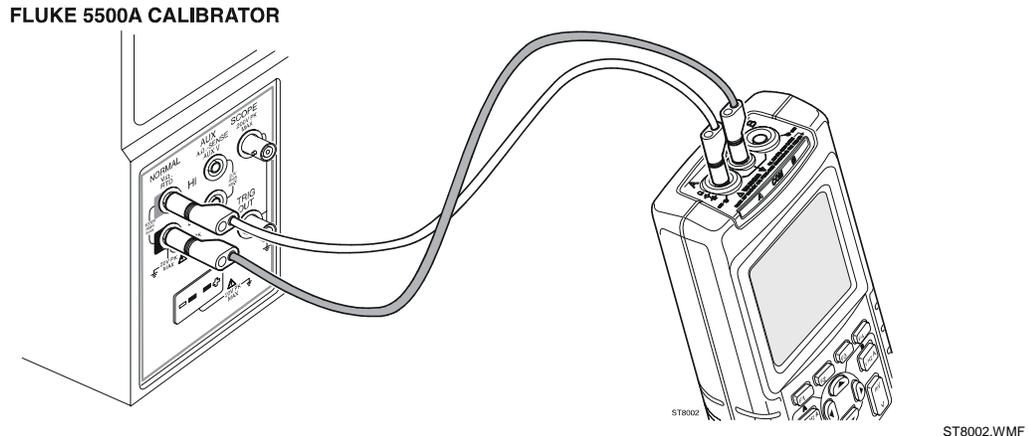

Figure 4-9. Capacitance Gain Calibration Input Connections
2. Connect the test tool to the 5500A as shown in Figure 4-9.
2. Connect the test tool to the 5500A as shown in Figure 4-9 (Section 4.6.8).